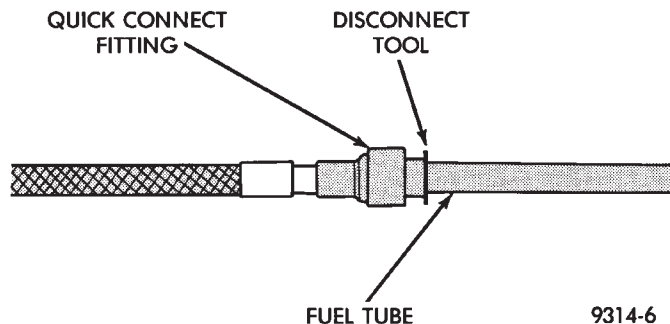

Fig. 35 Metal Quick-Connect Fittings
The quick-connect fitting consists of the O-rings, casing, disconnect tool and a retainer (Fig. 35). When the fuel tube enters the fitting, the retainer locks the shoulder of the nipple in place and the O-rings seal the tube.
- (4) Push the quick connect fitting toward the fuel tube while depressing the built-in release tool. Then slightly twist the fitting and pull it off the fuel tube (Fig. 35).
- (5) Cover the fitting to prevent contamination.